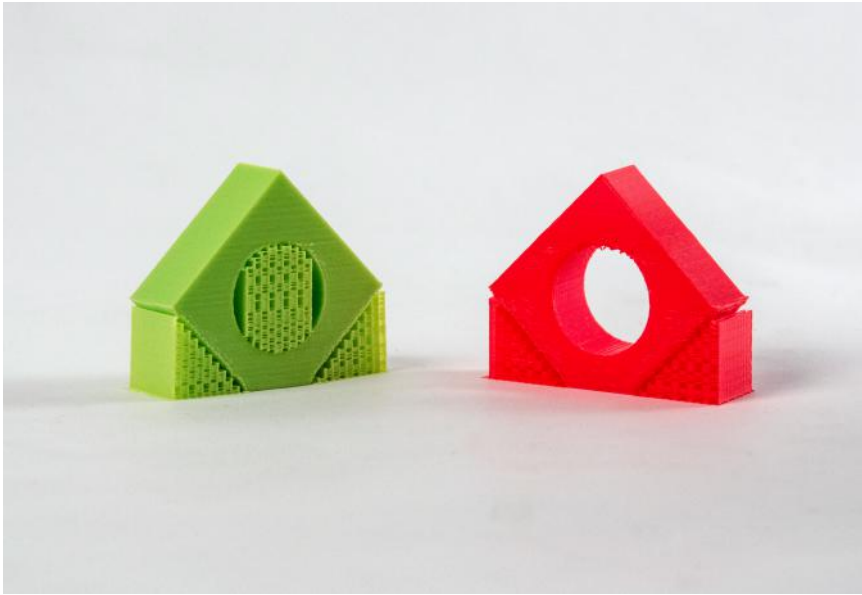

Figure 2.17: Different Support Options
- **Support placement** will determine how support is generated. **Everywhere** will build support everywhere, including within the object. **Touching build plate** will build support material just between the build plate and the object, ignoring interior holes of the object. (Fig. 2.17, page 60)